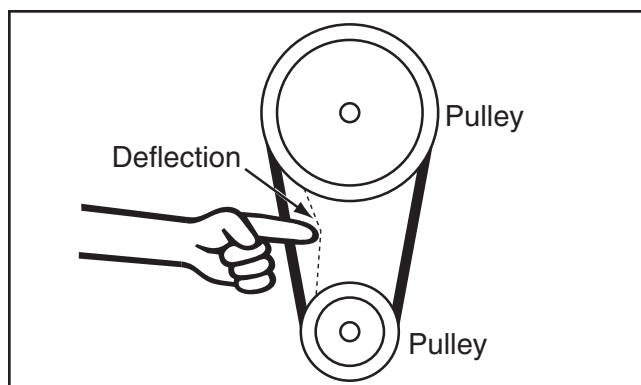

Figure 149. Checking belt deflection.
5. Press the belt in the center to check belt tension. The belt is correctly tensioned when there is approximately $\frac{1}{8}$ " deflection when it is pushed with moderate pressure, as shown in **Figure 149**.